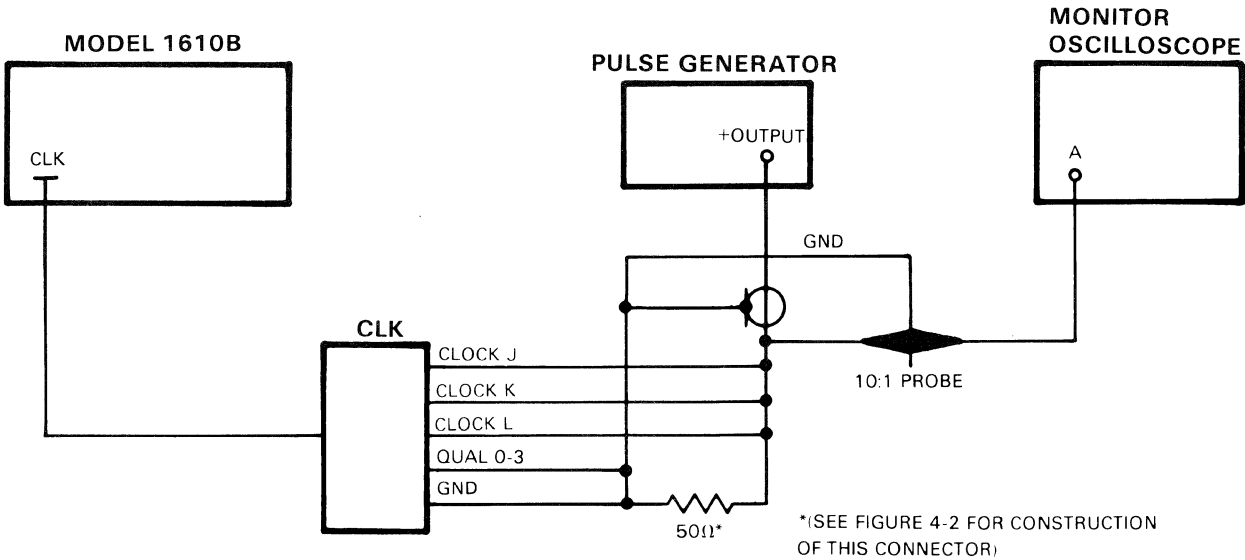

Figure 4-7. Minimum Clock Width Test Setup
- c. Connect Clock J, Clock K and Clock L inputs to pulse generator as shown in figure 4-7.